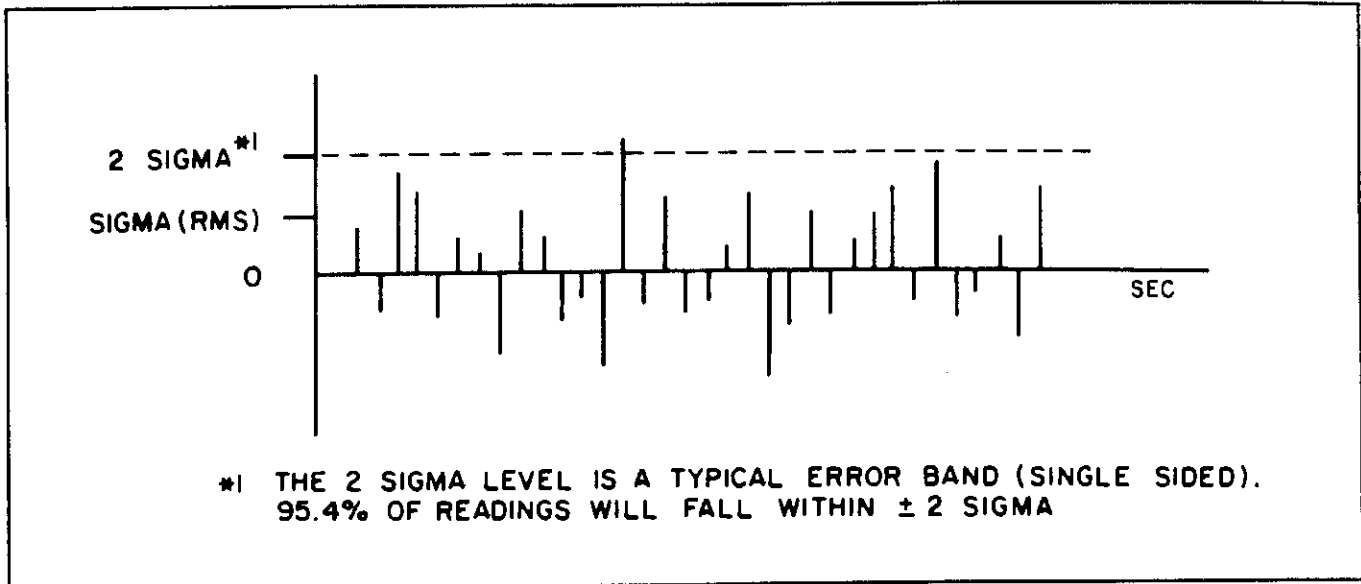

Figure 4-9. Typical Error Band Specification
2. **Error Computation.** Since the noise is Gaussian, both before and after filtering, statistics show what level of confidence factor can be associated with a given reading. (At medium or high power levels, the confidence factor is essentially unity.) Figure 4-9 shows a typical set of samples and a typical error band specification of 2 sigma. 95.5% of the readings will fall within ± 2 sigma.